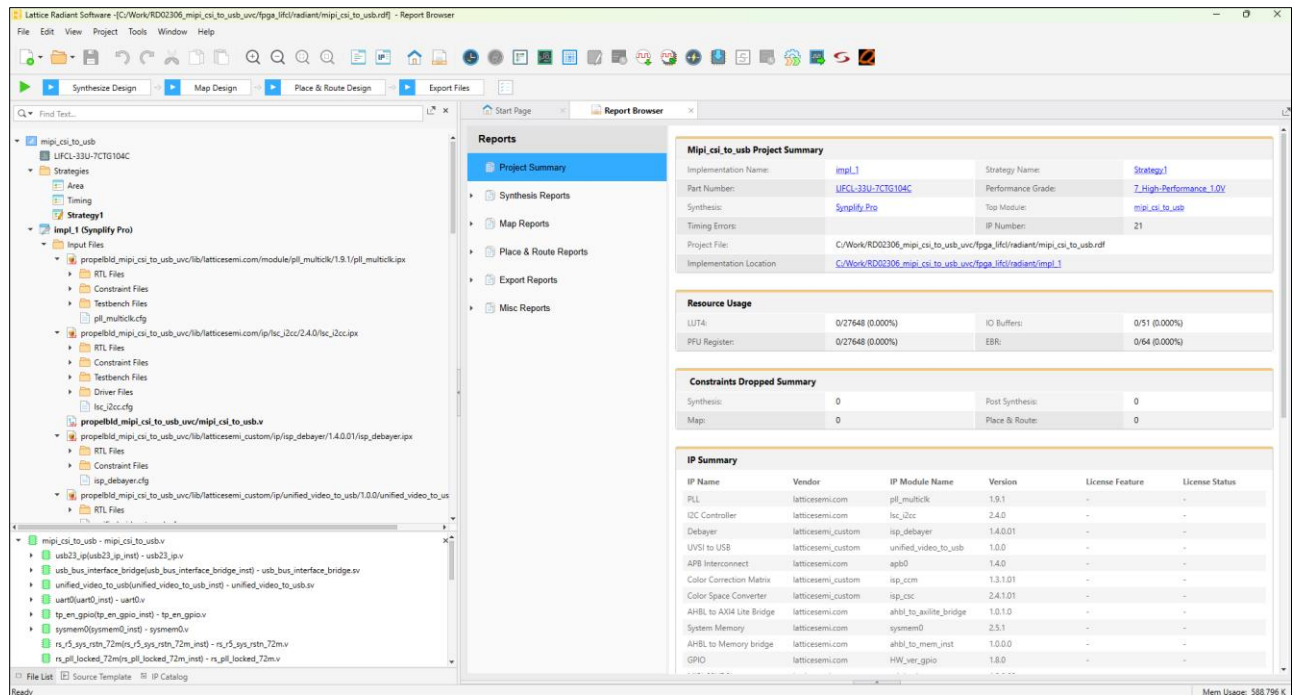

Figure 5.19. Lattice Radiant Software Window
9. The Lattice Radiant software window opens and shows this project (Figure 5.19).